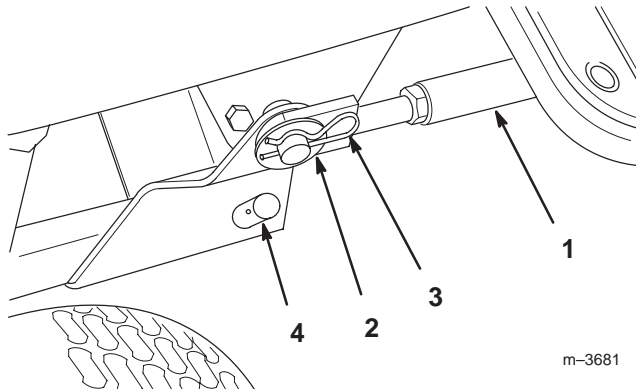

Figure 28
5. Remove the crank support by removing the hairpin cotter and clevis pin at its base (Fig. 28), then lifting the support from its mounting post.
- Remove the support braces from the frame rods protruding from the mid Attach-A-Matic™ hitch by removing the hairpin cotters and washers (Fig. 28).